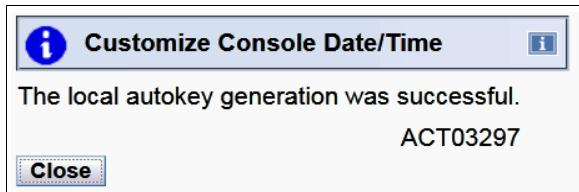

Figure 8-23 Autokey generation successful
4. When generating the Autokey is successful, the confirmation window (Figure 8-23) opens. Click **Close**.